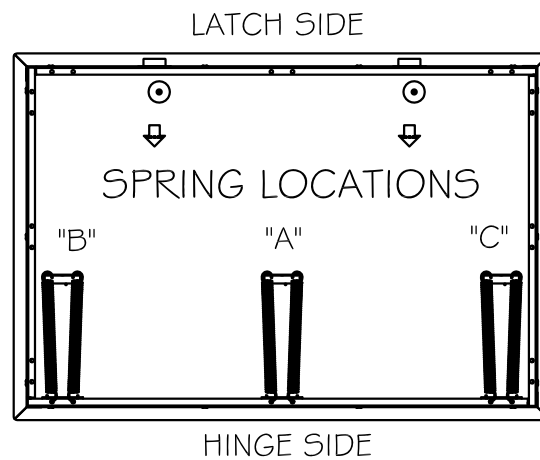

fig. 2
- 5. Install springs per reference table, **fig. 2.** Self-closure of door is required for UL or Warnock-Hersey fire rating. Neglecting to install springs will void the fire-rating.